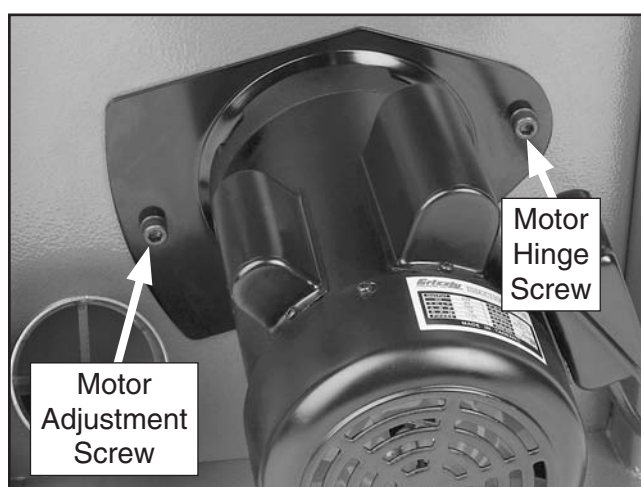

Figure 97. Motor mount screws.
3. Loosen the motor mount screws shown in **Figure 97**.